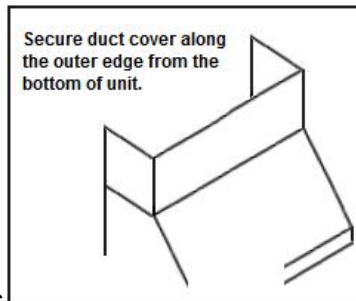

Fig. 2d
- j. Place the duct cover on top of the unit and secure it with the (7) duct cover screws provided. **(Fig. 2d)**